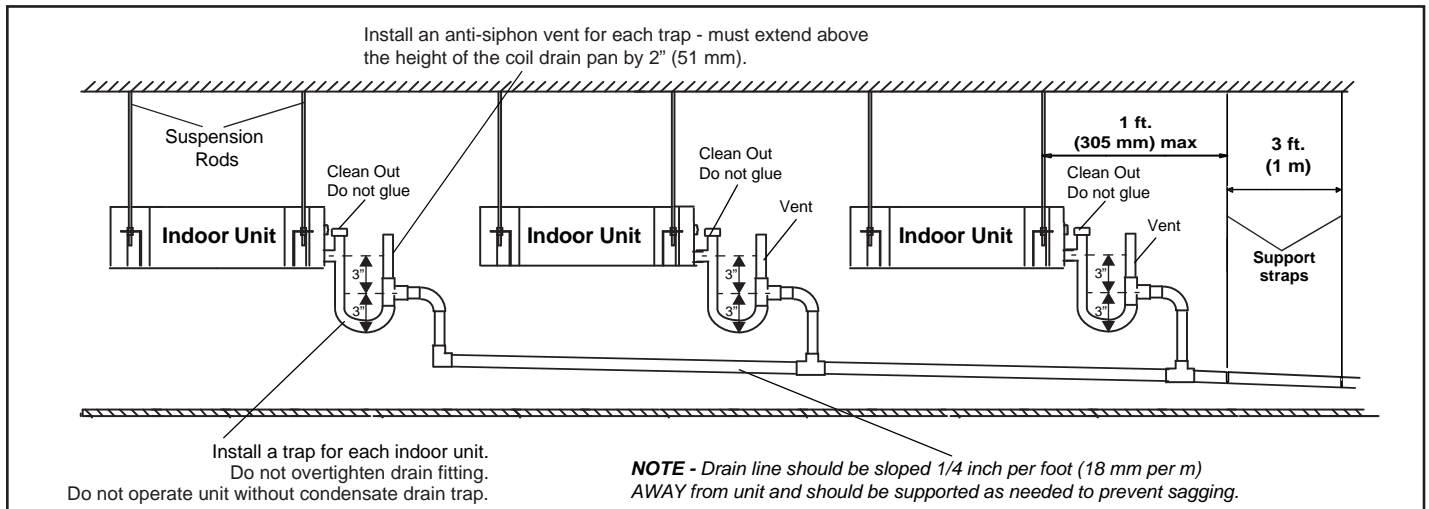

Figure 12. Using a Main Drain to Serve Multiple Indoor Units with Gravity Drains
4. See figure 12 for applications including multiple units and a single drain. In this case, ensure that the drain line is properly sloped (no less than 1/4 inch per foot) and condensate lines are routed to ensure moisture is drained away from the indoor unit.